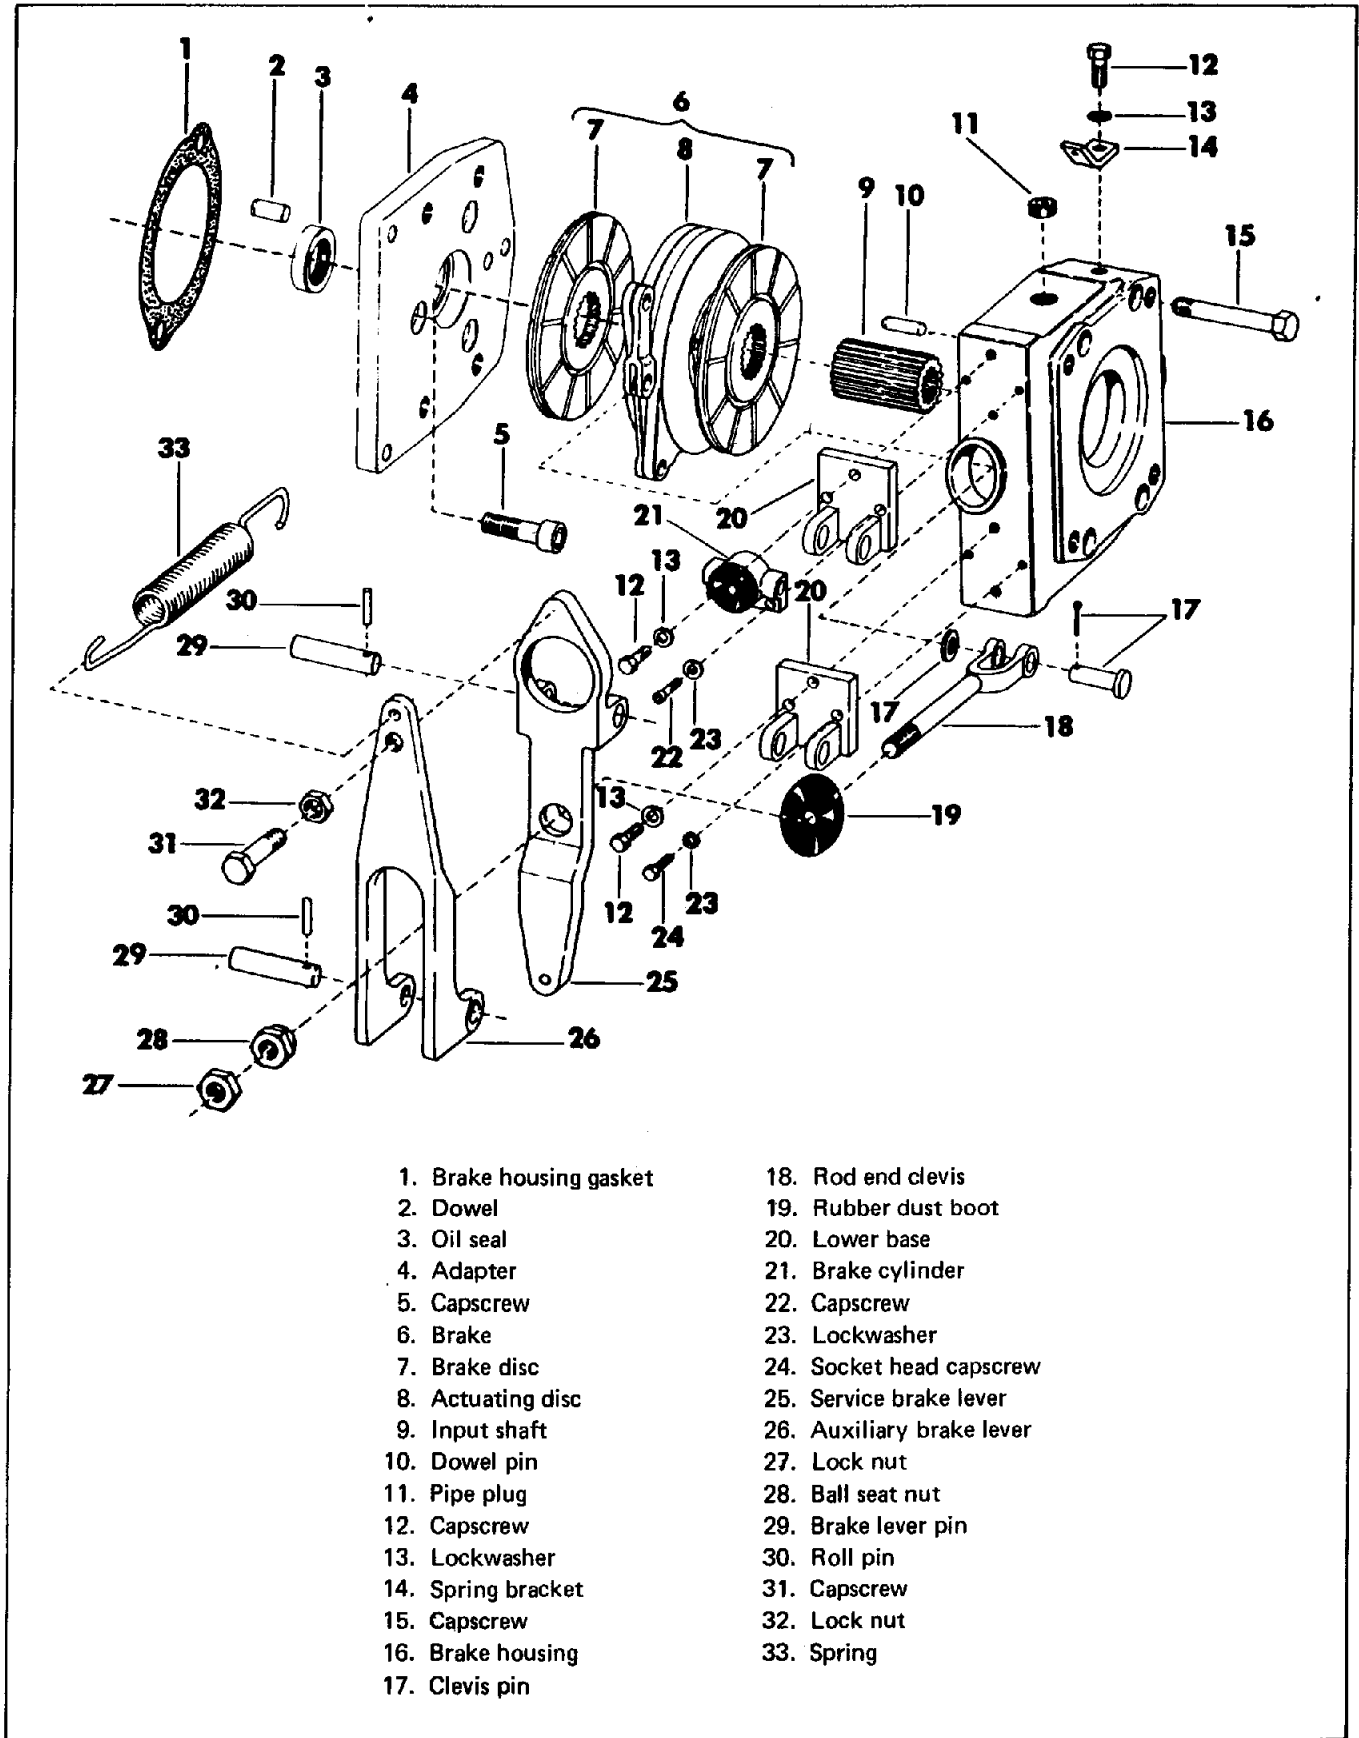

Figure 46. Hoist Brake – Early Model
Refer to Figure 46 and proceed as follows:
3. Refer to Figure 46 and position housing and attach with four bolts.
4. Install brake assembly (6) into housing along with attaching parts as shown in Figure 46. Install adapter (4), oil seal (3), and dowel (2).